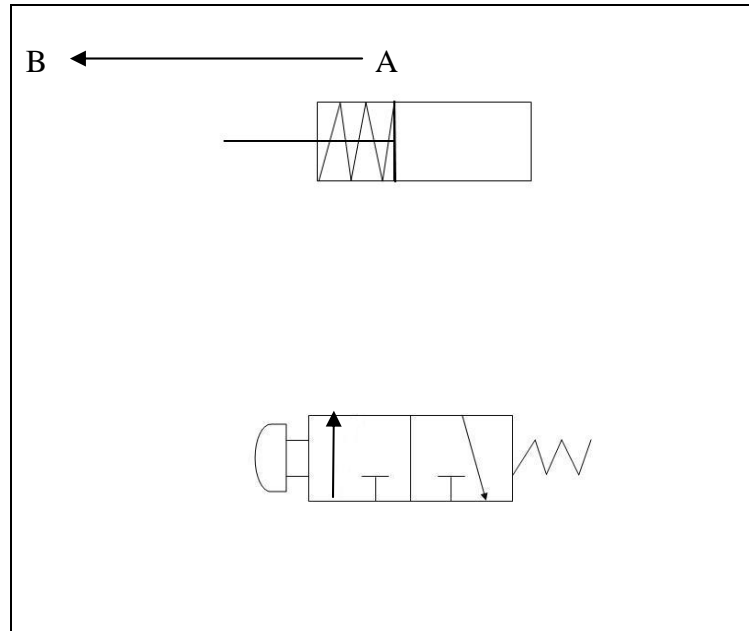

FIGURE 9
16. Figure 9 shows the basic pneumatic components which are not connected completely.